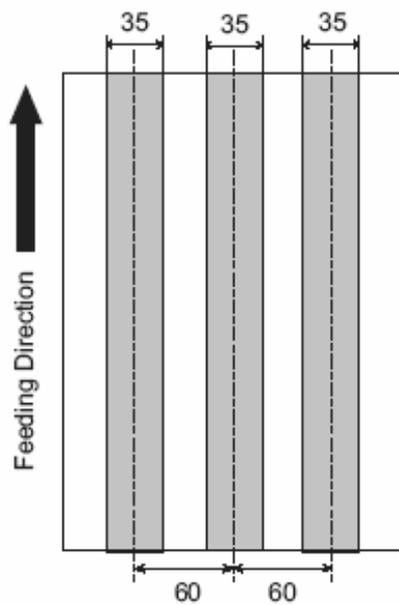

Fig.1
- Punched holes are not allowed within 35 mm (1.4 in.) of the vertical lines of the center, right and left sides of the document as shown in Fig.1
- Other paper shall not be glued within 35 mm (1.4 in.) of the vertical lines of the center, right and left sides of the document as shown in Fig.1
- Punched holes are not allowed within 35 mm (1.4 in.) of the vertical lines of the center, right and left sides of the document as shown in Fig.1.
- Other paper shall not be glued within 35 mm (1.4 in.) of the vertical lines of center, right and left sides of the document as shown in Fig.1.